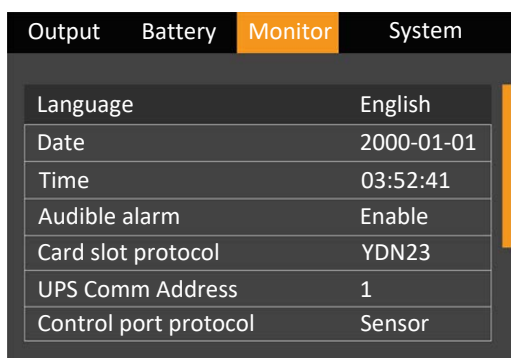

Figure 5-15 Monitor interface
2. Press the key to move the cursor to 'Monitor', see Figure 5-15.